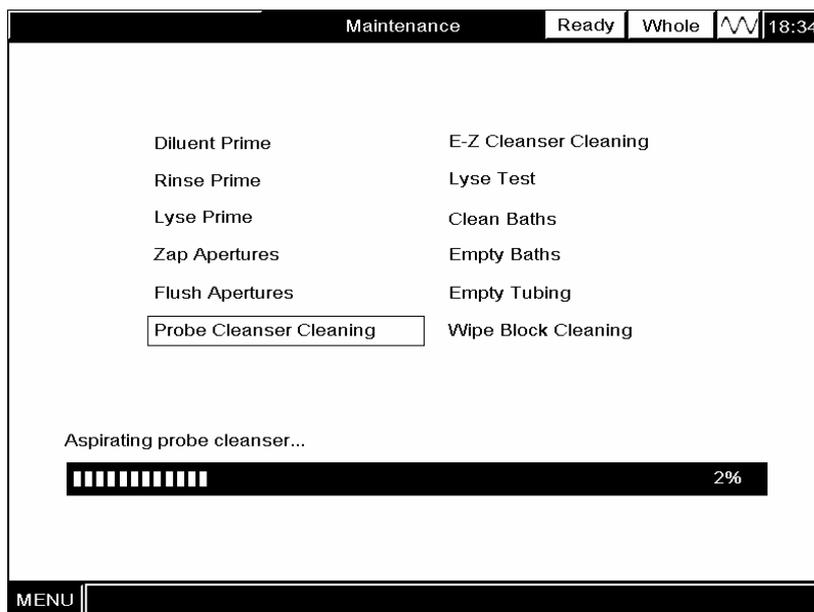

Figure10-9 Priming baths and fluidic lines again
- When the screen reminds you for the second aspiration, present the cleanser to the probe again and press [ENTER]. When you hear the beep and the sample probe is out of the bottle, remove the cleanser and the priming progress is displayed on the screen, as Figure10-9 shows.